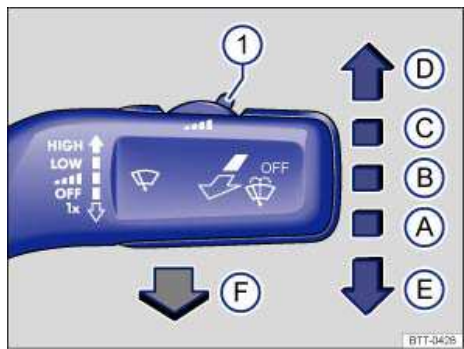

Fig. 87 Operating the front windshield wiper.
- Press the windshield wiper lever down briefly ⇒ fig. 87 \(E\) when the ignition is off.
Carefully fold the wiper arms back onto the windshield before driving! Switch the ignition on and press the windshield wiper lever down briefly ⇒ fig. 87 \(E\). The wiper arms move back to their original position.